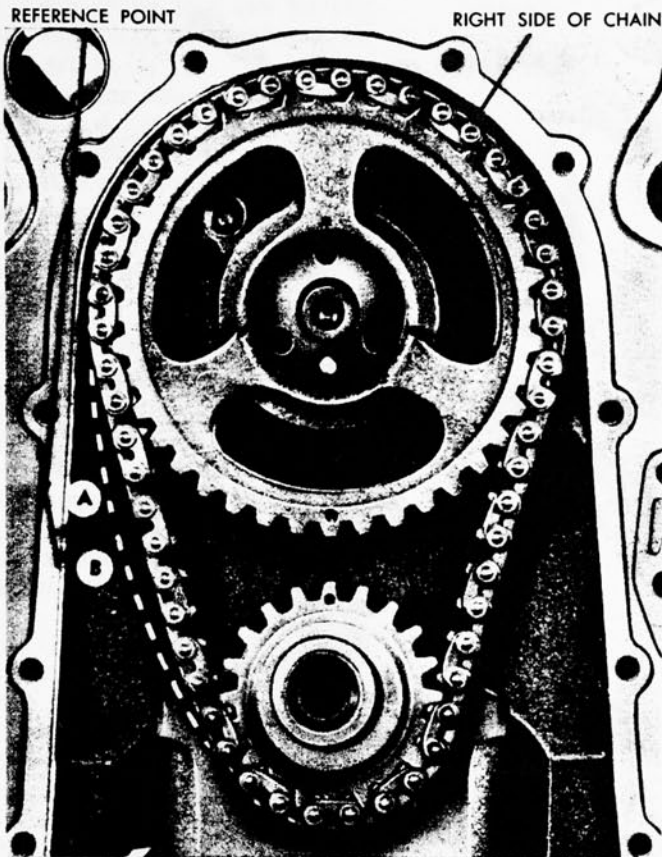

FIG. 41—Timing Chain Deflection
4. Establish a reference point on the block and measure from this point to the chain (Fig. 41). Rotate the crankshaft in the opposite direction to take up the slack on the right side of the chain, then force the left side of the chain out with the fingers and measure the distance between the reference point and the chain. The deflection is the difference between the two measurements.